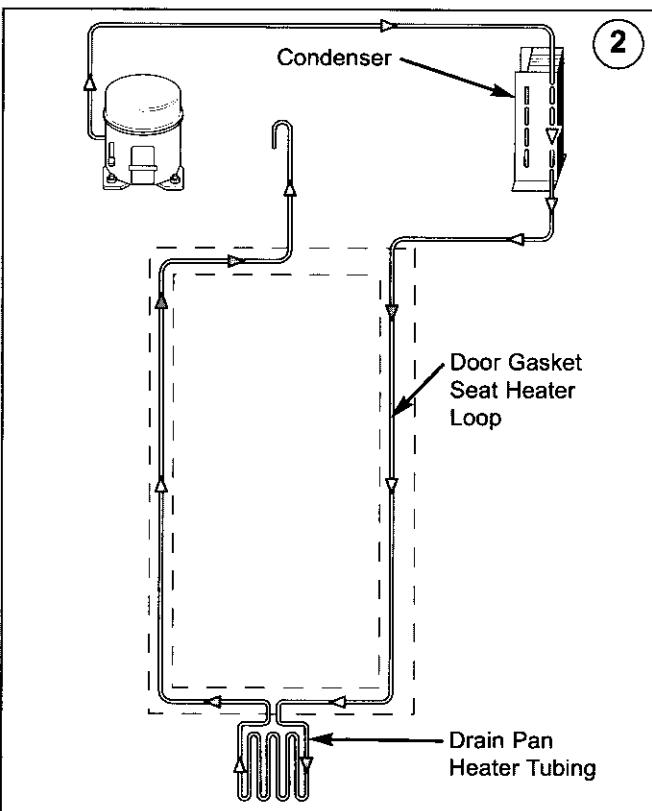

Figure 4-2. Condenser
### (2) - Condenser (Figure 4-2)